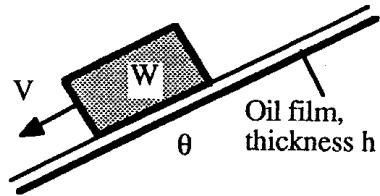

Fig. P1.45
- 1.45** A block of weight  $W$  slides down an inclined plane on a thin film of oil, as in Fig. P1.45 at right. The film contact area is  $A$  and its thickness  $h$ . Assuming a linear velocity distribution in the film, derive an analytic expression for the terminal velocity  $V$  of the block.